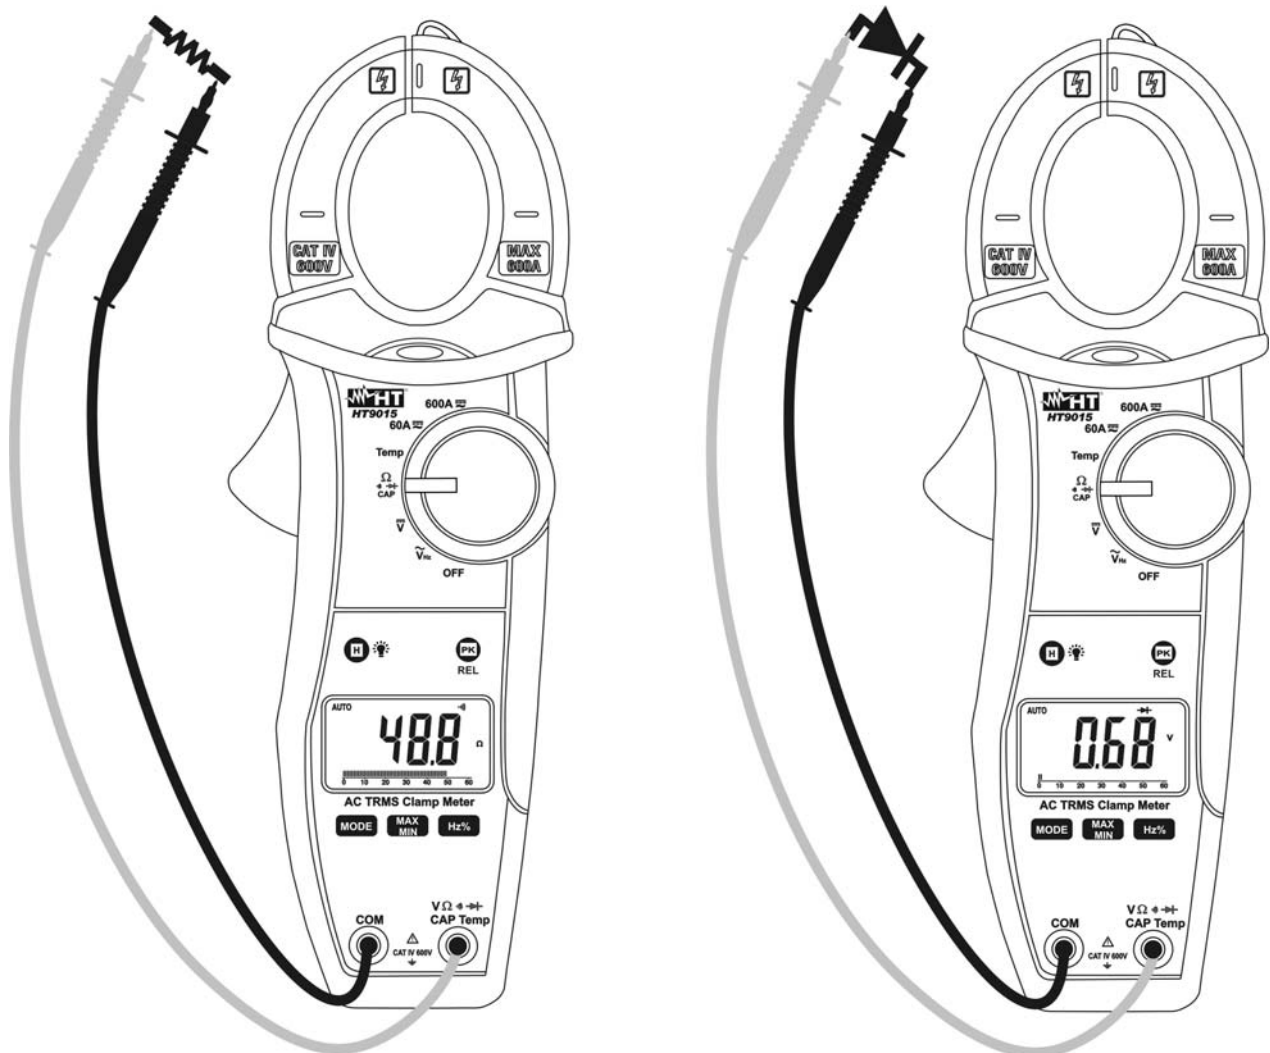

Fig. 6: Taking Continuity test and Diode test
3. Insert the red test lead plug into $V\Omega$ \rightarrow **CAP Hz% Temp** jack and the black test lead plug into **COM** jack and perform continuity test on the object under test (see Fig. 6 – left side). Buzzer emits sound if the measured resistance value is less about 60Ω
5. Connect the red test leads to the anode of diode on test and the black test lead on the cathode ones (see Fig. 6 – right side). Reverse position of test leads to reading reverse polarization voltage